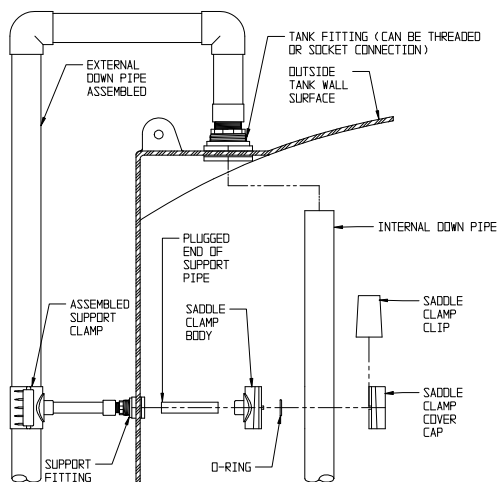

Figure 7.2
7.2.2 Assemble the piping loosely using Figure 7.2, the guidelines detailed below, and the customer approved tank drawing to ensure all parts are present and cut to meet the customer's requirements. As soon as all parts have been checked, assemble the parts with solvent weld cement and/or threaded connections as shown in Figure 7.2.
7.2.3 Assemble and install support structures as shown in Figure 7.2 (without the saddle clamp covercaps and clips). Make sure the support clamp orientation is correct (with the small width of the wedge toward the